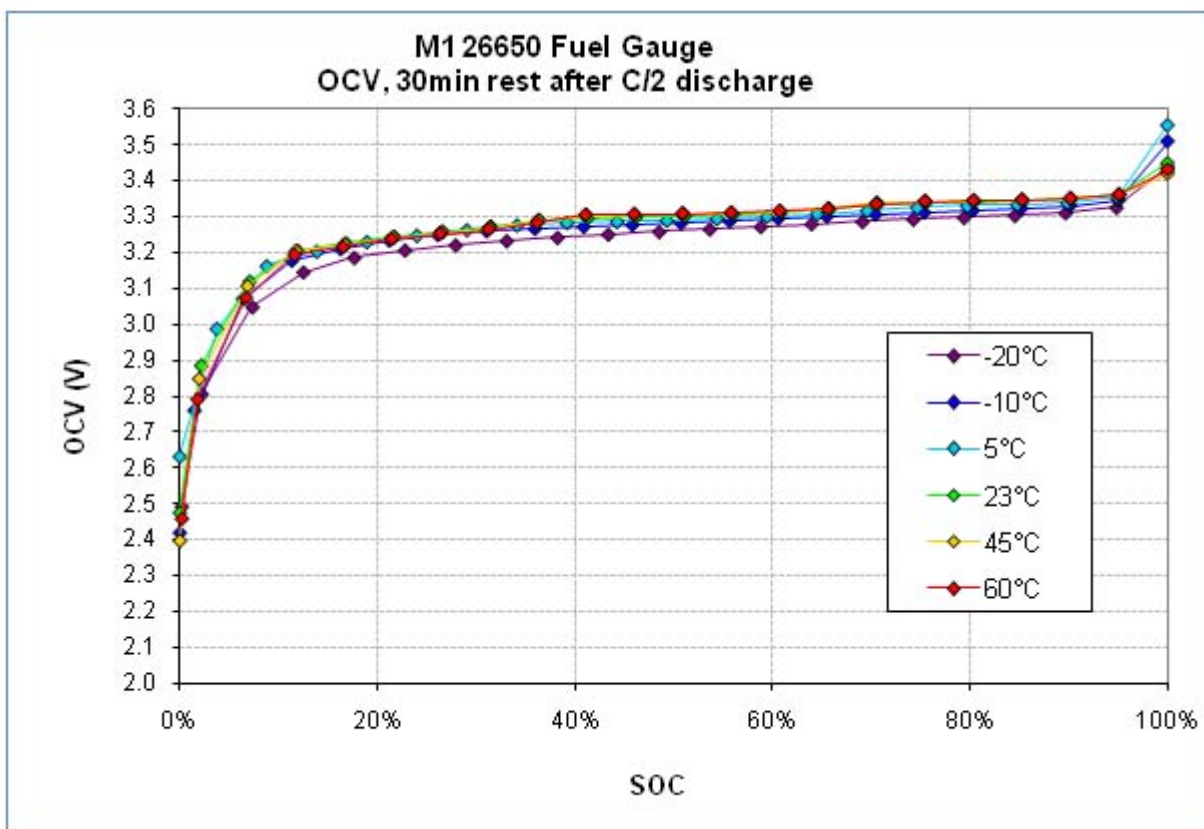

Figure 12 26650 Voltage vs. SOC at Various Temperatures
Lithium ion batteries store a specific amount of charge at a characteristic voltage potential. The amount of storable charge is specified by its amp-hour (AH) rating. The chemistry of the electrode materials determines the amount of voltage potential that drives the charge out during discharge and must be overcome during recharge. A123 Systems' Nanophosphate chemistry produces about 3.3V on average during a discharge. This voltage is dependent on a number of factors, including current, history, age, temperature and SOC. Figure 12 shows the open circuit voltage (OCV) voltage compared to SOC at various temperatures of the 26650 cell.
One method of determining SOC uses only voltage. The BMS takes a reading of the OCV and correlates it to the SOC using look-up tables based on the chart in Figure 12. The problem with this algorithm is that the voltage readings need to be extremely accurate for the A123 Systems battery technology. Also, the battery current affects the voltage reading proportional to the battery impedance, which depends on a number of factors such as temperature, age, and previous operational history. Figure 13 illustrates the possible range in SOC values resulting from uncertainty measuring OCV.